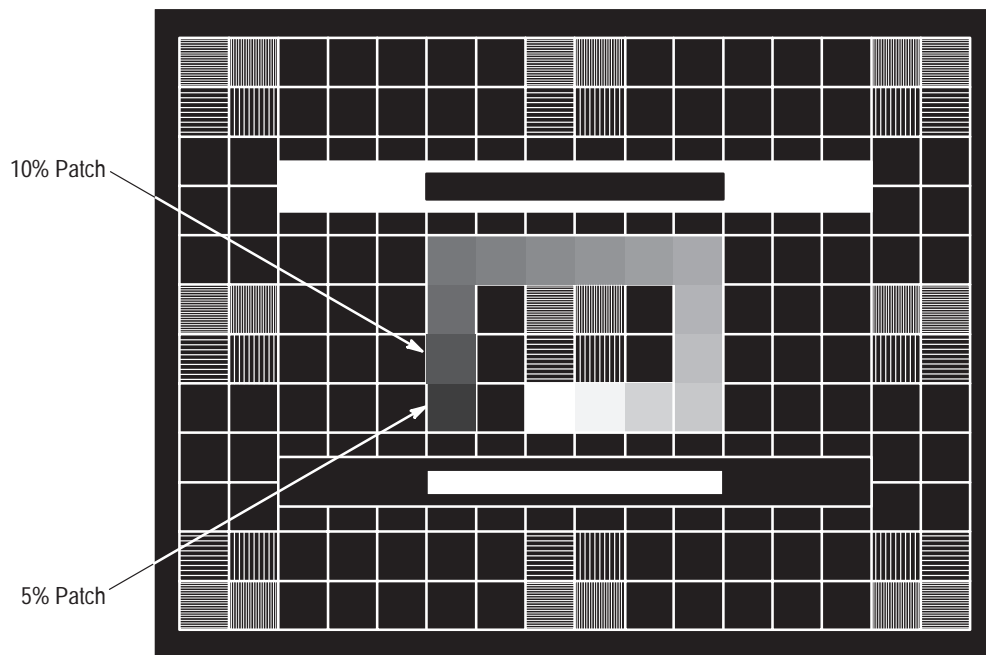

Figure 5–11: Five and ten percent luminance patches
- Adjust R569 (BRIGHTNESS) until the background raster lines in the 5% luminance patch (see Figure 5–11) just disappear, while the lines in the 10% luminance patch are just visible, when both are viewed through the magnifier.